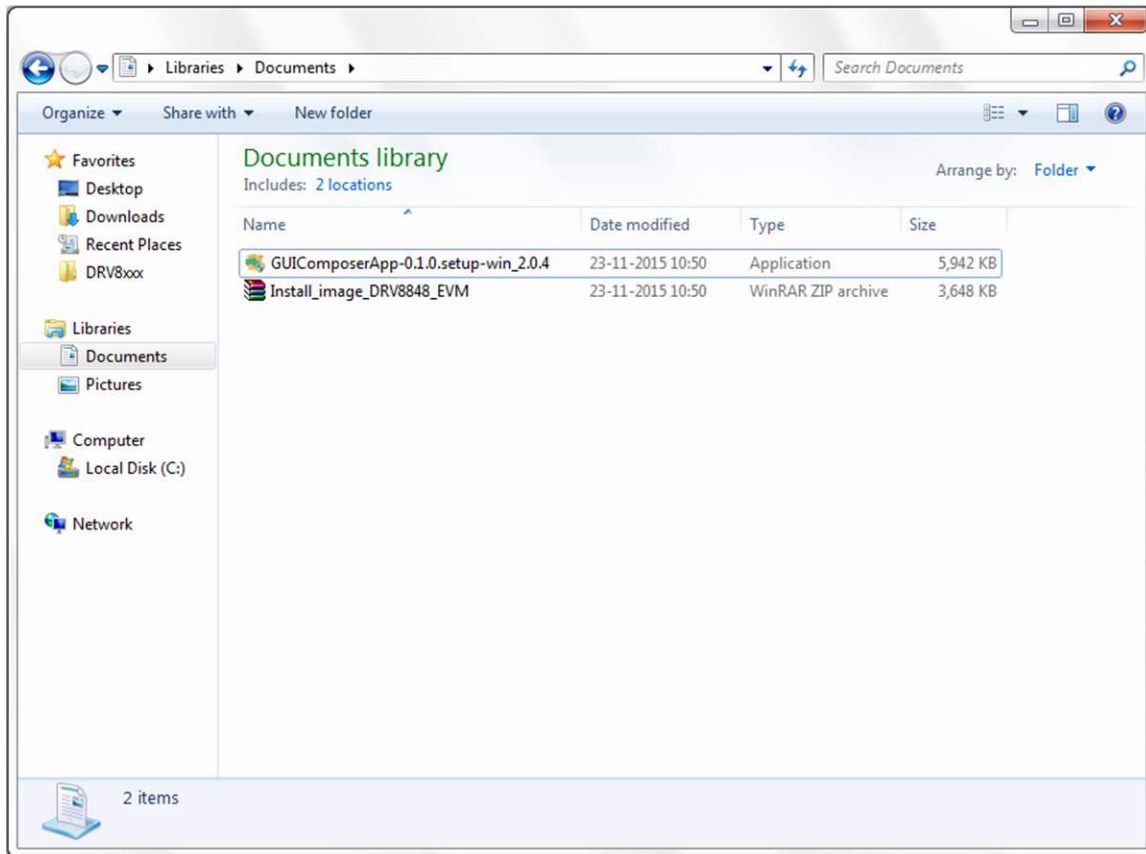

Figure 3. GUIComposerApp-0.1.0.setup-win_2.0.4
Step 1. Double click on the GUIComposerApp-0.1.0.setup-win_2.0.4 as shown in Figure 3.